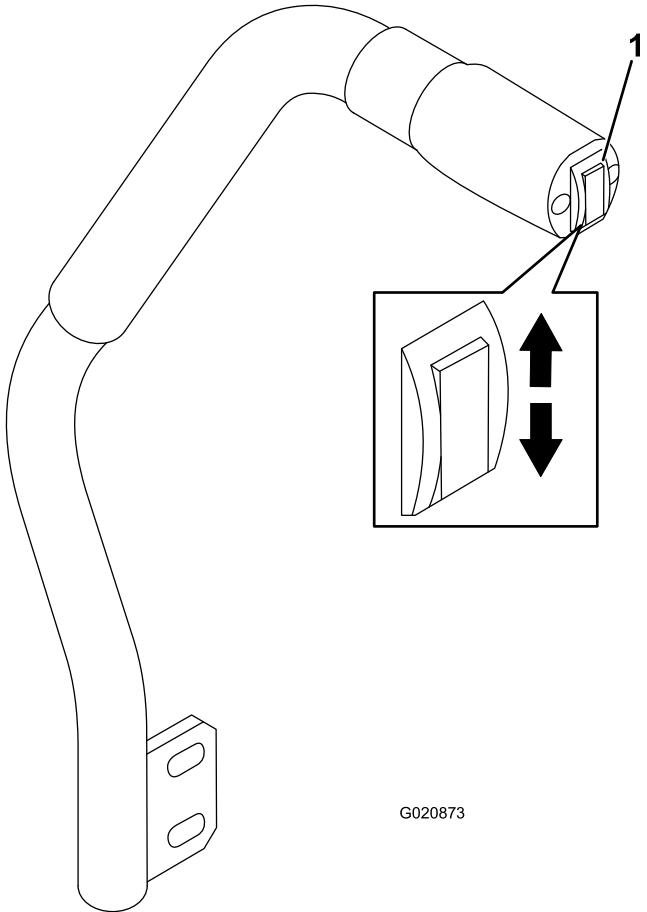

Figure 24
The deck-lift switch raises and lowers the mower deck (Figure 24). The engine must be running for you to use this lever.
- To lower the mower deck, push the deck-lift switch down (Figure 24).
- To raise the mover deck, push the deck-lift switch up (Figure 24).
- With the engine running, push the deck-lift switch up until the mower deck is fully raised and **release the switch immediately** (Figure 24).